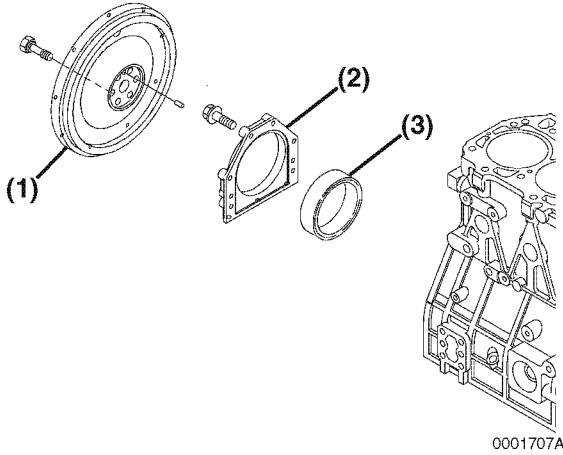

Figure 6-104
1. Remove the flywheel (**Figure 6-104, (1)**) from the crankshaft.
2. Remove the bolts from the rear oil seal assembly (**Figure 6-104, (2-3)**). Remove the assembly from the engine.